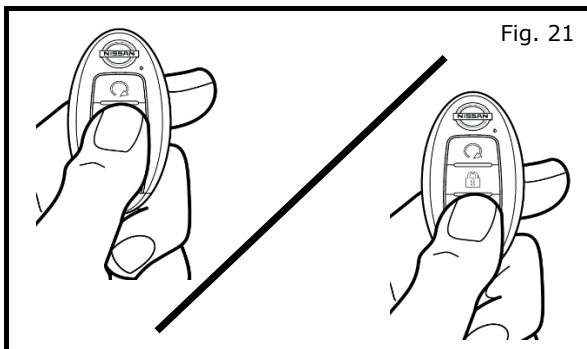

Fig. 21
- a) From outside vehicle press Lock on Fob 1 and Unlock on Fob 2 and confirm that vehicle responds accordingly as shown Fig. 21.
- b) From outside vehicle press Lock on Fob 2 and Unlock on Fob 1 and confirm that vehicle responds accordingly as shown Fig. 21.